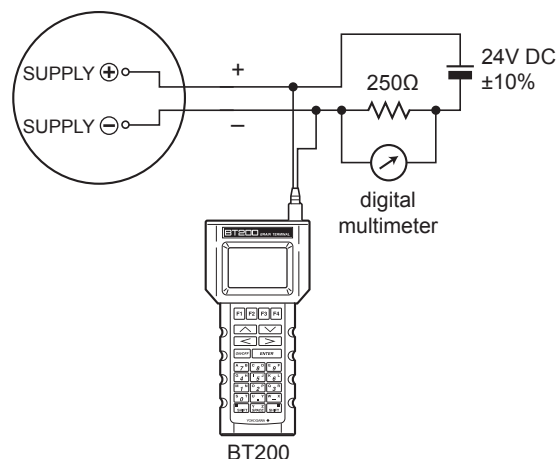

Figure 10.1 Connection of Maintenance Instruments
1. Connect the instruments by reading Figure 10.1, and warm up for three minutes more.
3. In case the load resistance is 250Ω, digital multimeter indicates 5V. Otherwise if it is known load resistance value, it indicates $R (\Omega) \times 0.02$ (A).